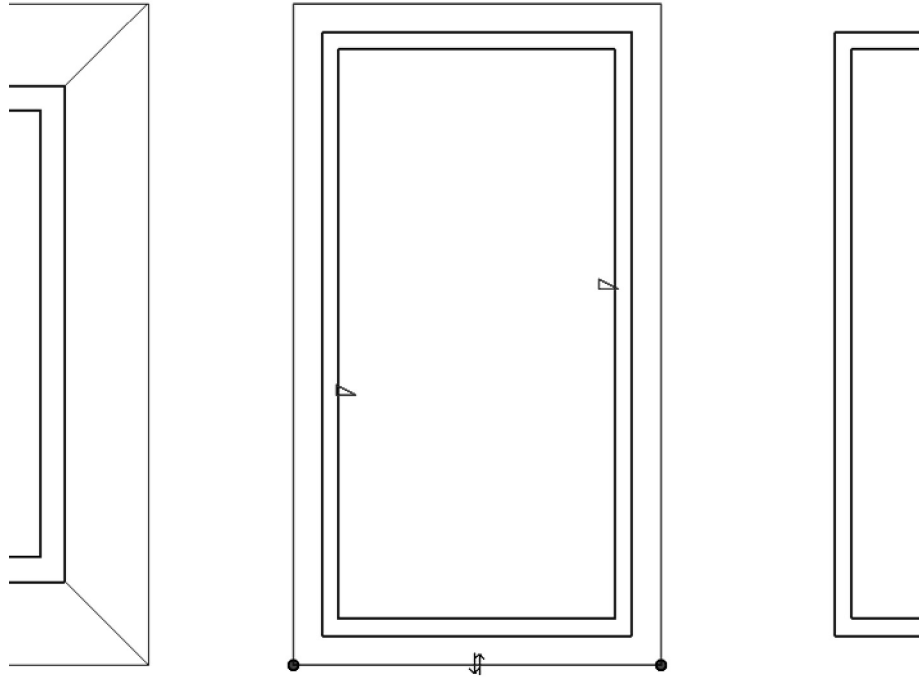

FIGURE 7-1.5 Gable – plan view
21. Select the remaining two walls (Figure 7-1.5).